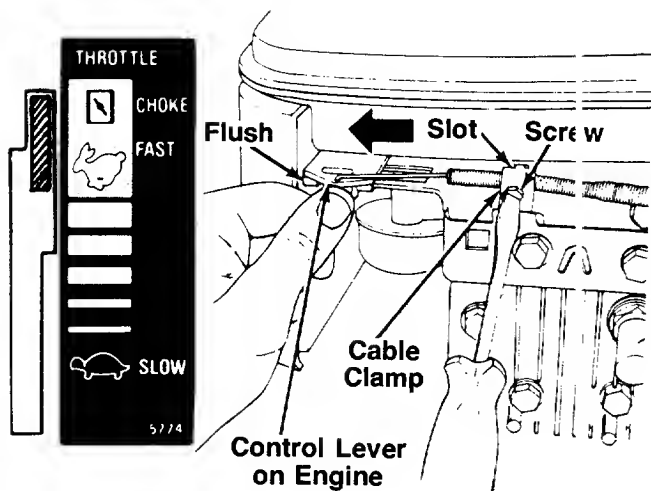

FIGURE 5.
1. Push the throttle control lever on the handle all the way forward to **CHOKE** position. See figure 5.
2. The throttle control cable is attached to the upper handle. Route the throttle control cable under the lower handle and inside the handle mounting bracket. Hook the "Z" end of the throttle control cable into the hole in the control lever on the engine. See figure 5.
3. Using a 5/16" wrench or nutdriver, remove the screw on the cable clamp shown in figure 5. Slip the control cable under the clamp. Replace the screw (cable should be above the screw), but do not tighten (cable must still move freely beneath the clamp). Make certain the tab on the cable clamp is seated into the slot on the engine. See figure 5.
4. Push the control lever on the engine as far toward the **outside** of the engine as it will go. The edge of the control lever should be flush with the bracket on the engine. See figure 5. Hold the control lever in this position as you tighten the screw on the cable clamp to secure the throttle cable.